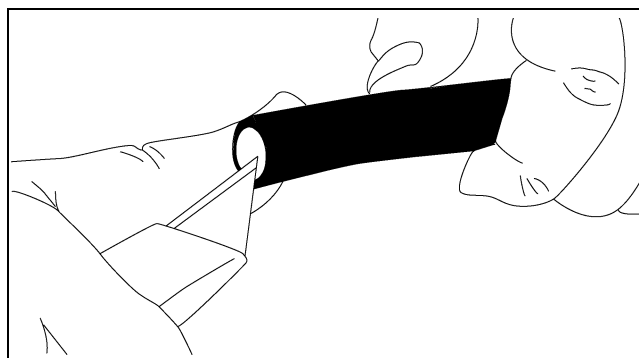

Figure 5B
- b. Chamfer end of hose. (See Figure 5B.)